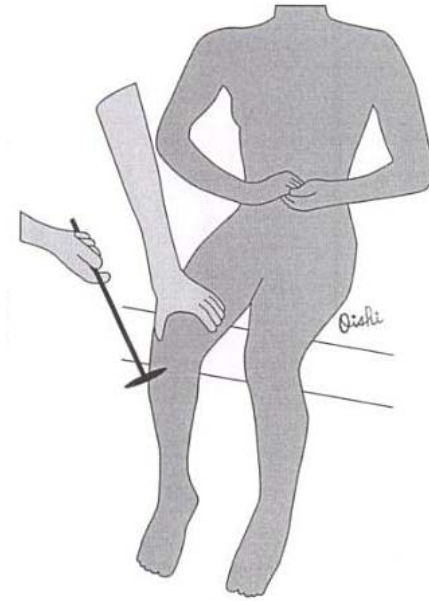

Figure 3: Jendrassik maneuver
3. Have the subject perform the Jendrassik Maneuver. To perform this maneuver, the subject must grip both hands together across their chest and attempt to pull them apart with maximum force while the knee jerk reflex is obtained (Fig. 3).